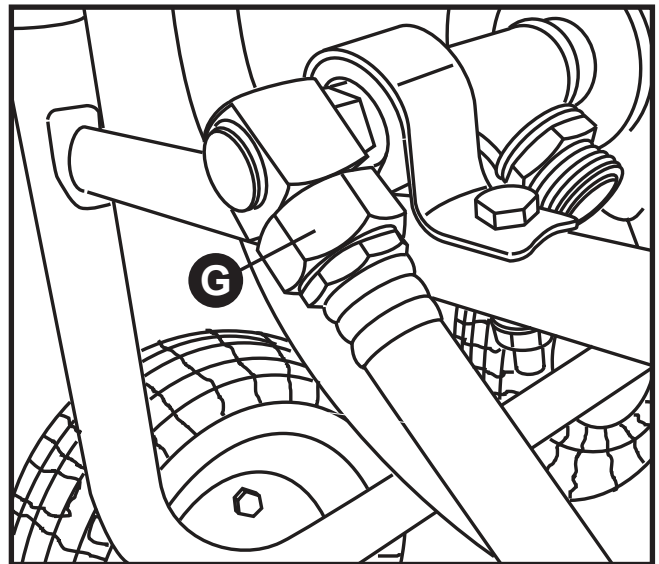

FIGURE 12
12. Attach the Leader Hose (G) to the end of swivel. **DO NOT OVERTIGHTEN.** **Figure 12**